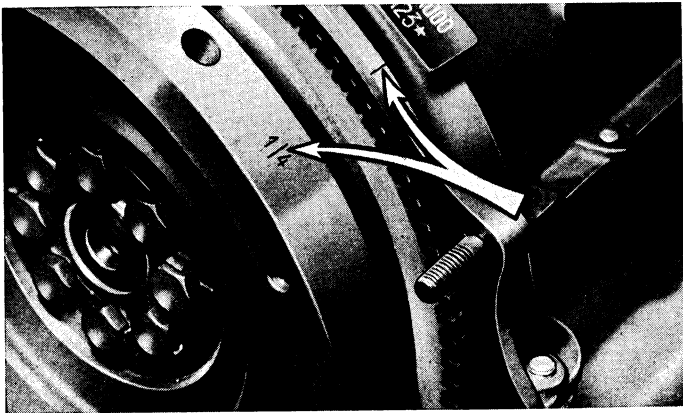
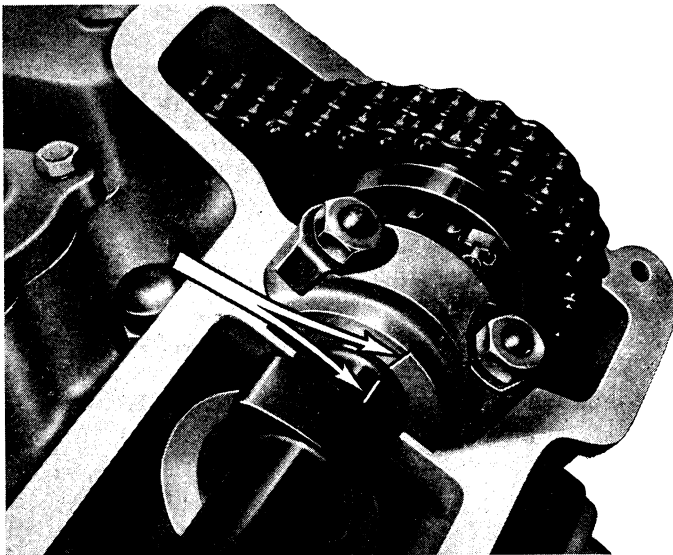

Fig. 58. - Reference marks on flywheel and crankcase for valve gear and ignition timing on engine 118 B.000.
Fig. 59. - Timing marks on camshaft and bearing - engine 118 B.000.
- Turn flywheel until its « 1/4 » reference mark lines up with the mark on crankcase (fig. 58) and the reference marks on camshafts line up with the marks on camshaft bearings (fig. 59).
- Turn flywheel until its « 1/4 » reference mark lines up with the mark on crankcase (fig. 58) and see to it that the reference marks on camshafts line up with the marks on camshaft bearings (fig. 59).